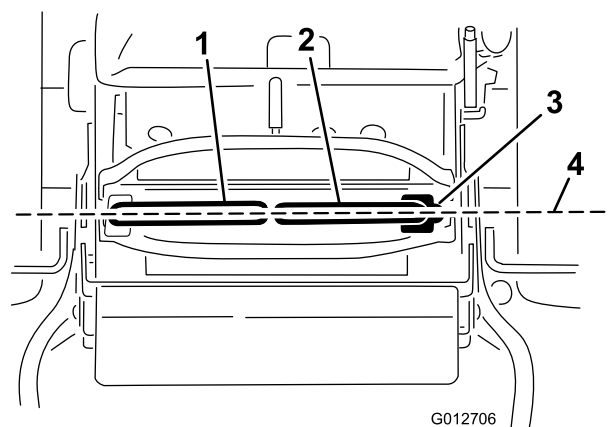

Figure 69
Important: Ensure the tracking of the mower is correct after adjusting the motion control levers. Adjusting the tracking and aligning the motion control levers front to back is the same procedure (Figure 69).
1. After the horizontal alignment is finished, check the front to back alignment by slightly pushing the control levers forward to take up any slack in the linkage for the control levers (Figure 69).